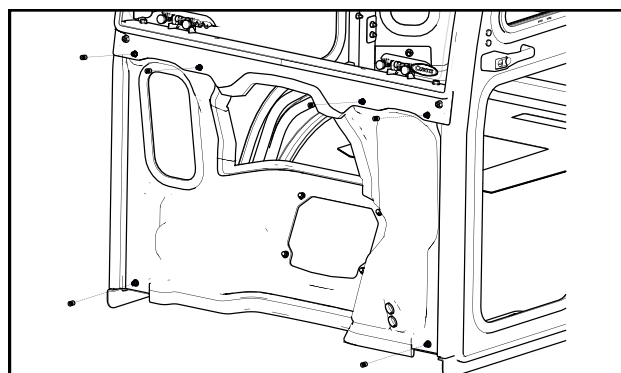

Fig. 22.1 (Caps for Insert Nuts)
- 22.1** Place rubber caps over the six nuts at the front of the cab; four on the front of the Cowl and one at each side of the bottom of the Radiator Shroud. See Fig. 22.1.